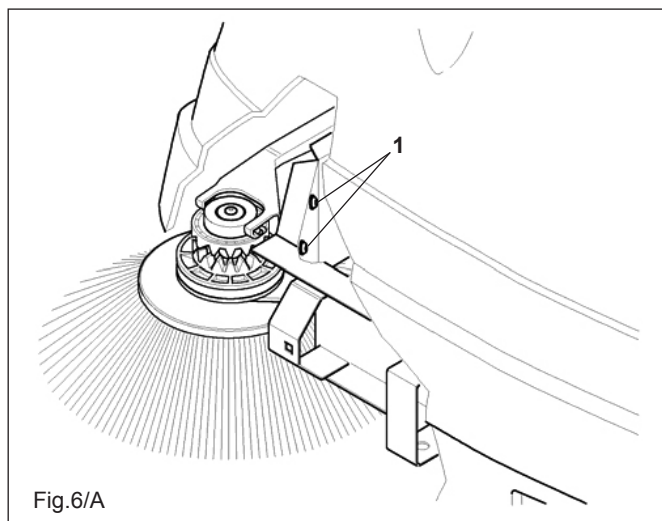

Fig.6/A
The side brush is adjusted by slackening the screws pos.1 Fig.6/A and using the slots to position the brush at the required height. Once you have positioned it, tighten the two screws.
### Replacing (Fig.6/C)